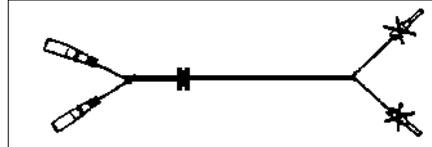

Figure 3
- On the wiring harness 993 612 893 00, cut off both male connector (Figure 3).